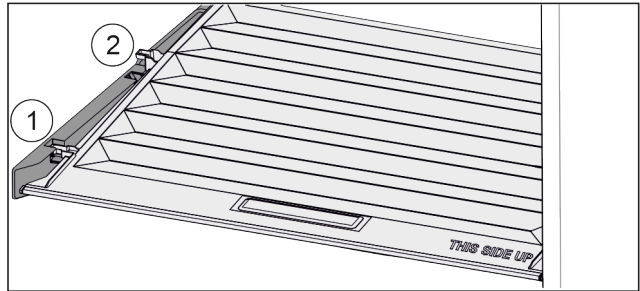

Fig. 56
- ▶ Pull the lid up at the front to the opening in the retaining parts Fig. 56 (1).
- ▶ Lift from the back and pull it up and out Fig. 56 (2).